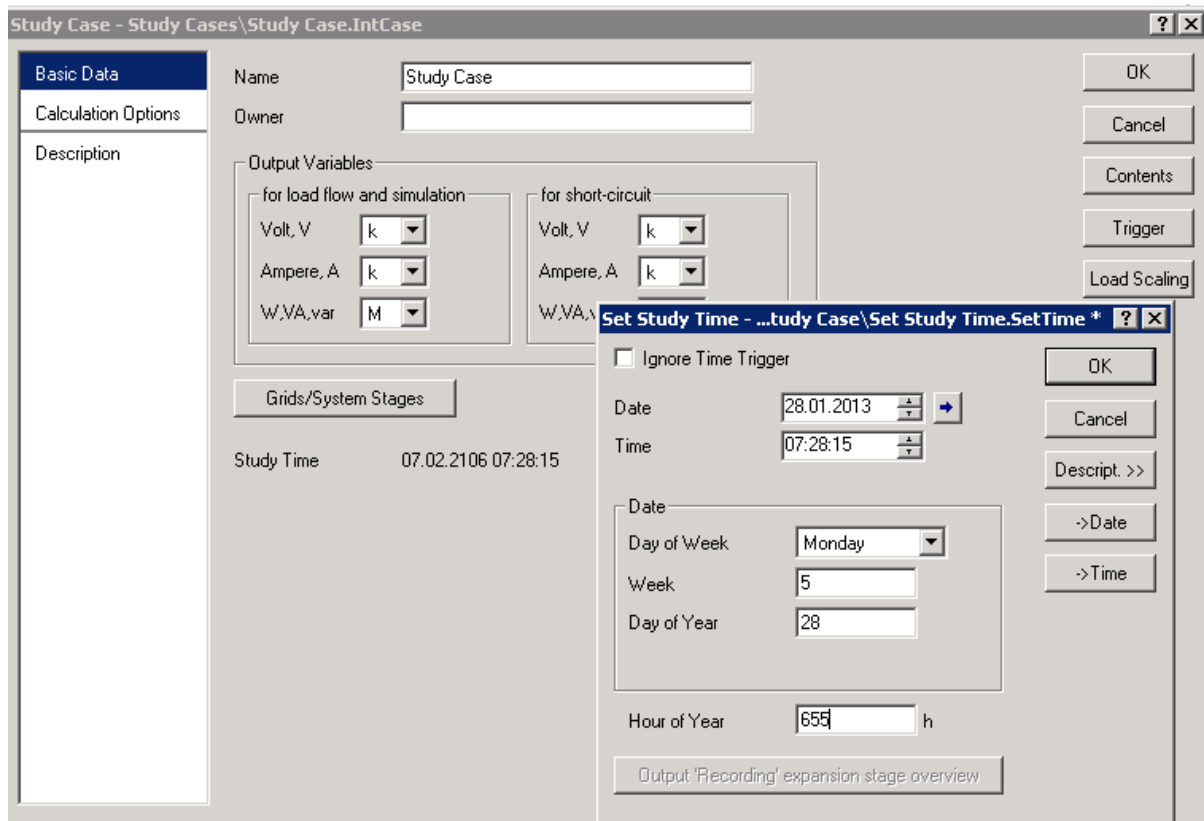

Figure C.3.2: Setting Date and Time of the Study Case
- To set the Study Time click on the button with the three dots ( ... ). A window "Set Date and Time of Calculation Case" appears, as shown in Figure C.3.2.